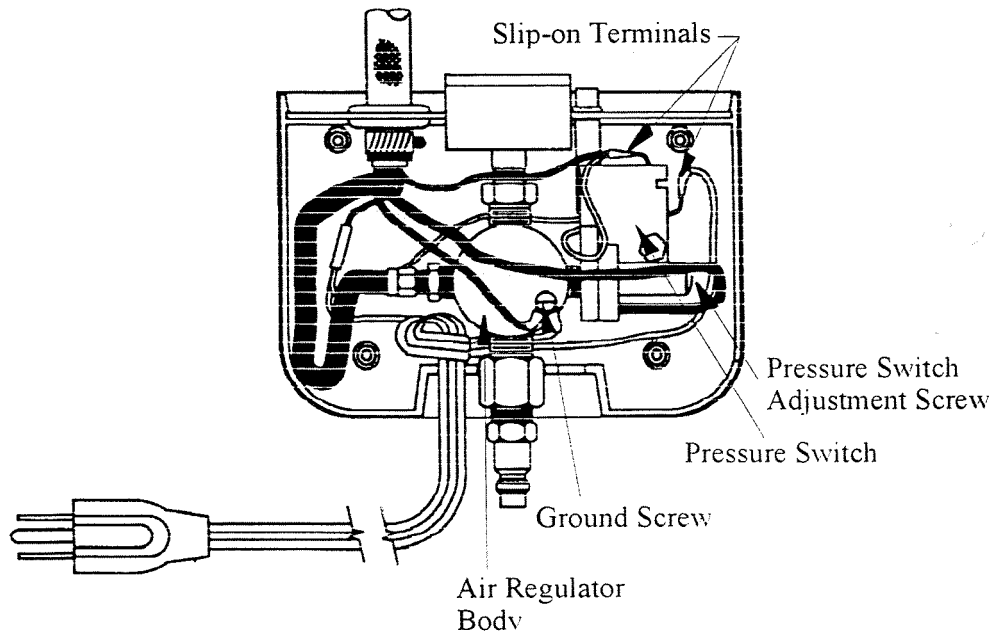

Fig. 1
- c. After 2 full turns continue to turn the switch clockwise until it is positioned as illustrated in Fig. 1. **CAUTION: DO NOT** apply any type of pipe sealing compound or lubricant to the air switch thread and **DO NOT EXCEED 3 TURNS**, or damage to the switch may occur.